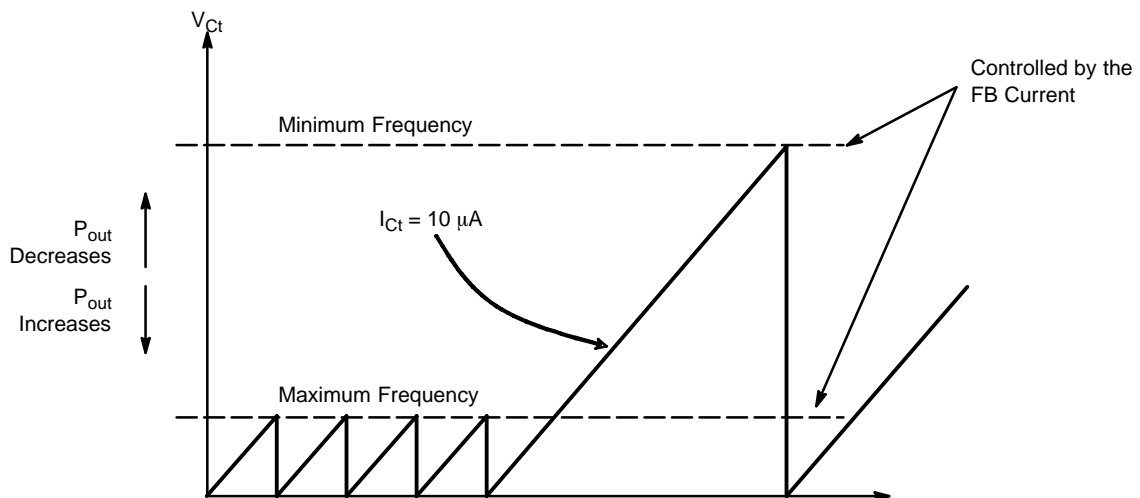
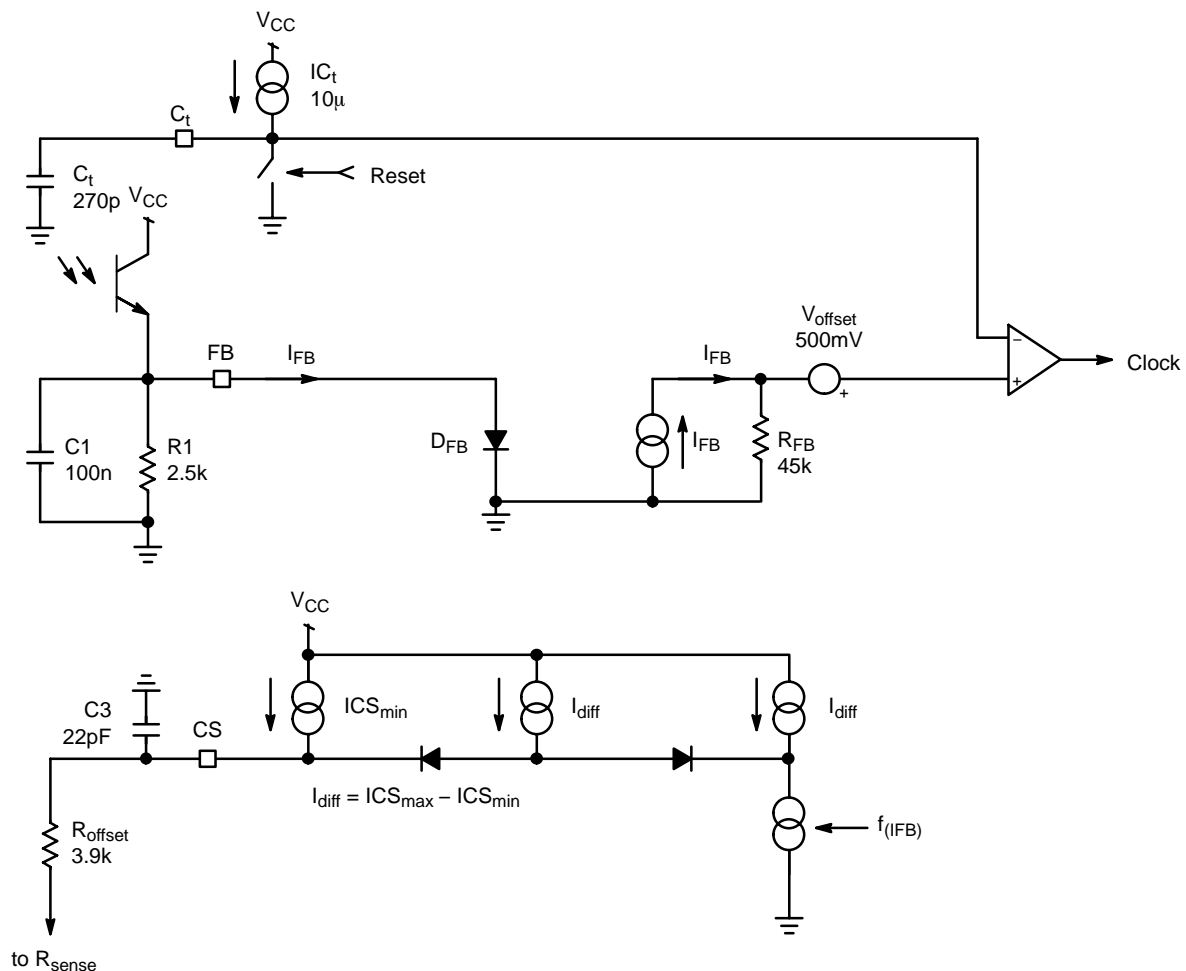

Figure 8. The Current Injected into the Feedback Loop Adjusts the Switching Frequency
Figure 13. The Feedback Section Inside the NCP1351
The feedback current controls the frequency by changing the timing capacitor end of charge voltage, as illustrated by Figure 8.
Unlike other controllers, the feedback in the NCP1351 works in current rather than voltage. Figure 13 details the internal circuitry of this particular section. The optocoupler injects a current into the FB pin in relationship with the input/output conditions.
The FB pin can actually be seen as a diode, forward biased by the optocoupler current. The feedback current, I_{FB} on Figure 13, enter an internal 45 k Ω resistor which develops a voltage. This voltage becomes the variable threshold point for the capacitor charge, as indicated by Figure 8. Thus, in lack of feedback current (start-up or short-circuit), there is no voltage across the 45 k Ω and the series offset of 500 mV clamps the capacitor swing. If a 270 pF capacitor is used, the maximum switching frequency is 65 kHz.
Folding the frequency back at a rather high peak current can obviously generate audible noise. For this reason, the NCP1351 uses a patented current compression technique which reduces the peak current in lighter load conditions. By design, the peak current changes from 100% of its full load value, to 30% of this value in light load conditions. This is the block placed on the lower left corner of Figure 13. In full
2. B version: the circuit stops its output pulses and the auxiliary V_{CC} decreases via the controller own consumption ($\approx 600 \mu\text{A}$). When it touches the $V_{\text{CC(min)}}$ point, the circuit re-starts and attempts to crank the power supply. If it fails again, an hiccup mode takes place (Figure 13).